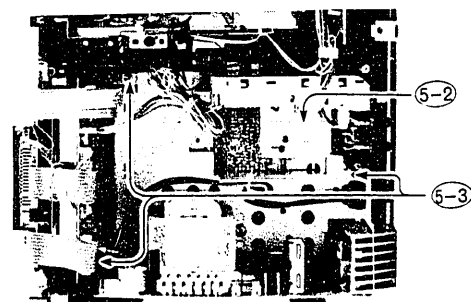

Fig. 15 Regulator P.C. Board
5. Regulator P.C Board (Fig. 15)